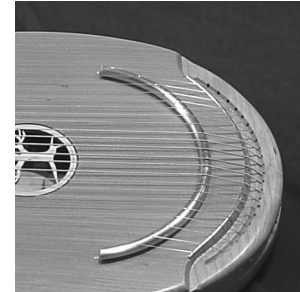

FIG. 13
- ___14. Position the curved brass tube near the tail end of the instrument. The middle of the bridge should sit about 1-1/2" to 2" away from the edge of the soundboard. (fig. 13)